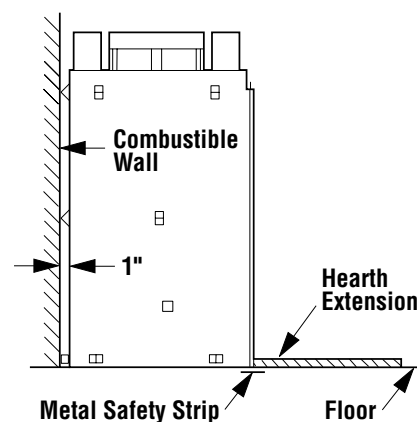

Figure 6
Step 2. Insert the provided metal safety strips, beneath the fireplace as illustrated (Figures 6, 7 and 8). The safety strips should overlap 1/2" for continual coverage of the floor.